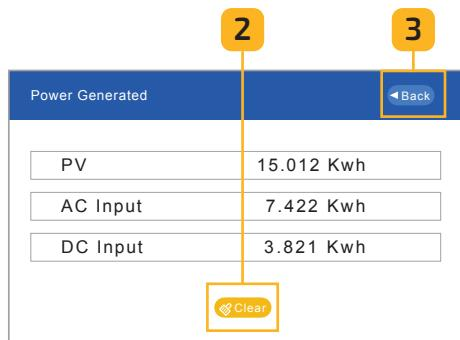

Fig. 6.32 • Power generated screen
2. Click the **Clear** button to clear power generation history (Fig. 6.32).